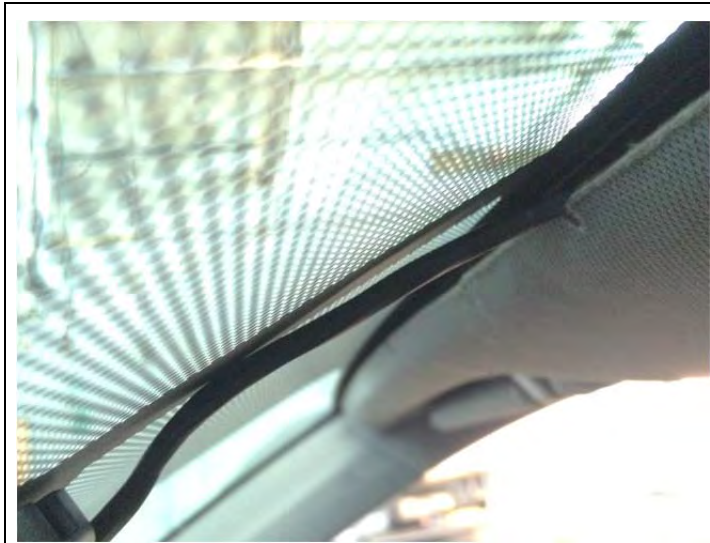

Figure 10
10. Route the mirror harness to overhead console opening using the precut notches on the front of the headliner. See figure 10.